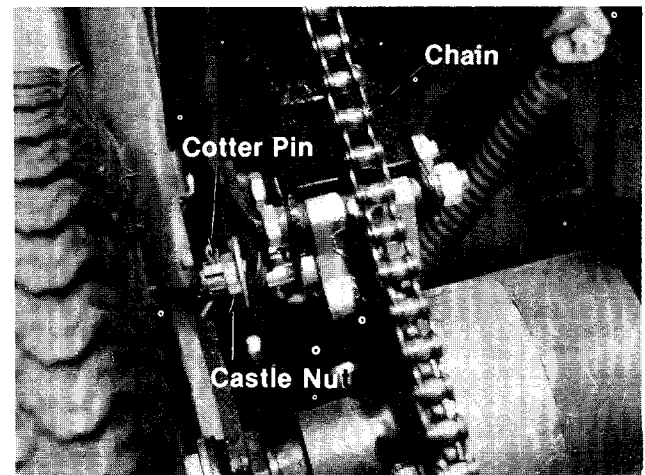

FIGURE 30.
BRAKE ADJUSTMENTS (See Figure 30)
4. **Chain.** Periodically lubricate chain lightly with oil. Wipe off excess oil, especially on the sprocket. **Do not** get oil on the disc brake. See figure 30.